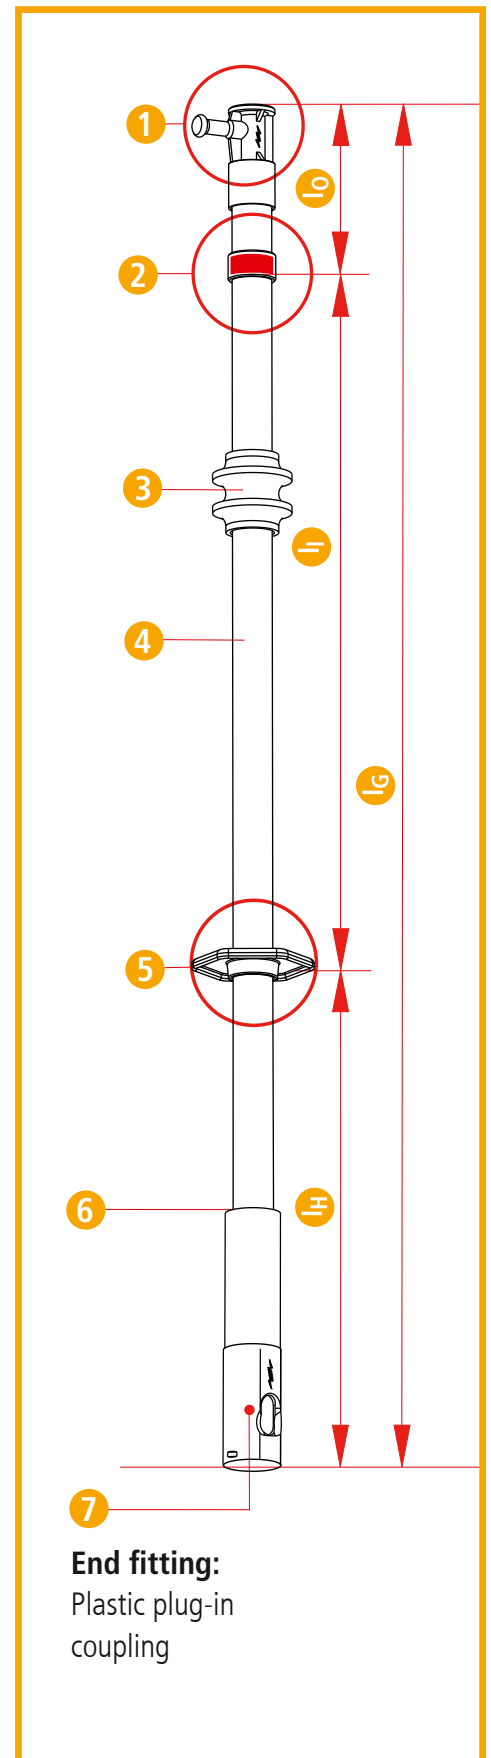

Fig. 4.1
The **SCSN 36 STK 1000 switching stick** consists of a **switching stick head ①**, **red ring ②**, **insulating element ④**, **hand guard ⑤**, **handle ⑥** and **end fitting ⑦** (see Fig. 4.1).
The **hand guard ⑤** and the **red ring ②** limit the **insulating element ④** rated for the nominal voltage (see Fig. 4.1).
The **SCSN 36 STK 1000 switching stick** is fitted with a plastic plug-in coupling at the lower end of the end fitting for extending the handle (see Fig. 4.1, page 7 and Pkt. 4.2 , page 8)